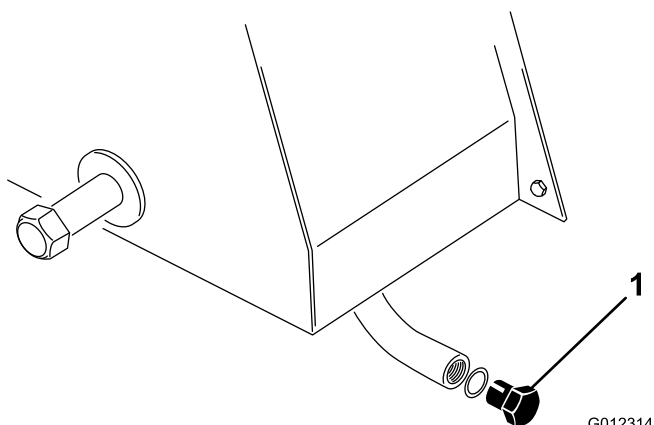

Figure 42
1. Open the drain plug (Figure 42) one-half turn and allow the fluid to flow into drain pan until you do not notice water in the hydraulic fluid.
1. Remove the drain plug (Figure 42) from the reservoir and let the hydraulic oil flow into a drain pan. Tighten the plug when the hydraulic oil stops draining.